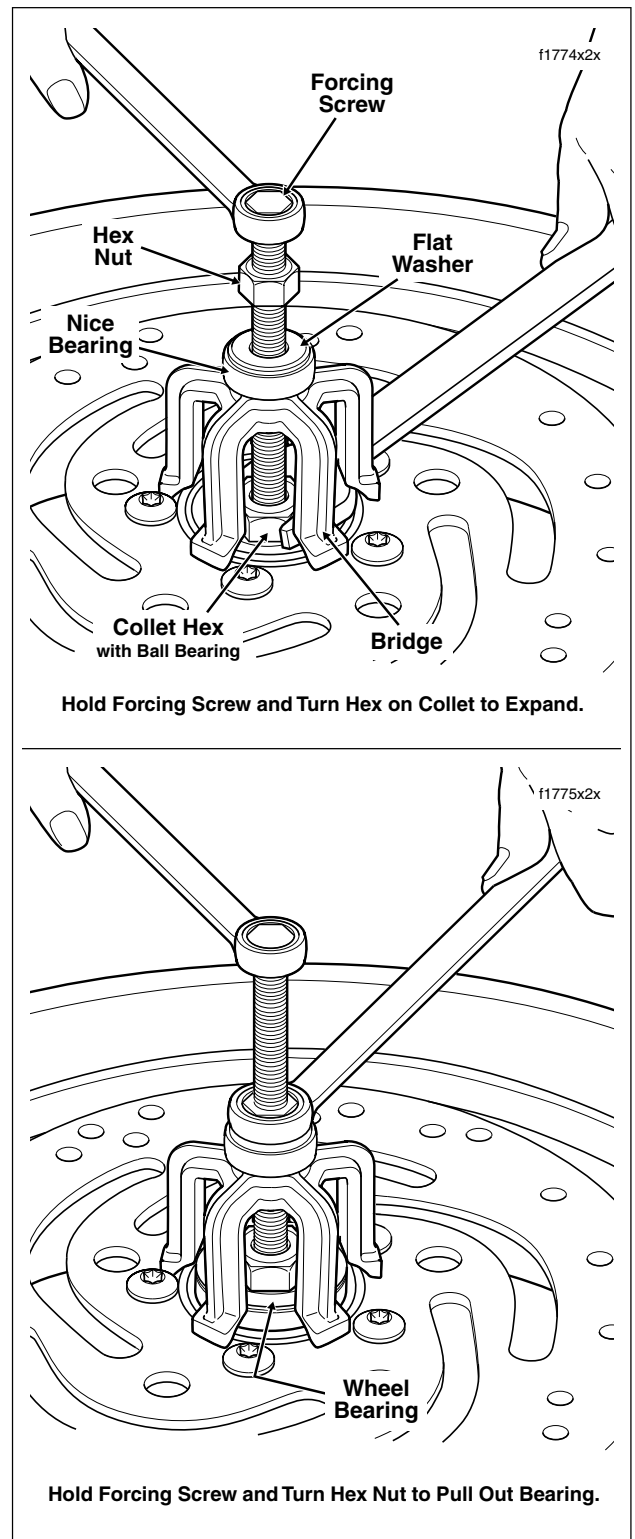

Figure 2-3. Remove Sealed Wheel Bearings
- f. Holding forcing screw to prevent rotation, turn hex on collet until lip makes firm contact with inside edge of bearing. See upper frame of Figure 2-3.
- g. Holding forcing screw, turn hex nut until bearing is free. See lower frame of Figure 2-3.